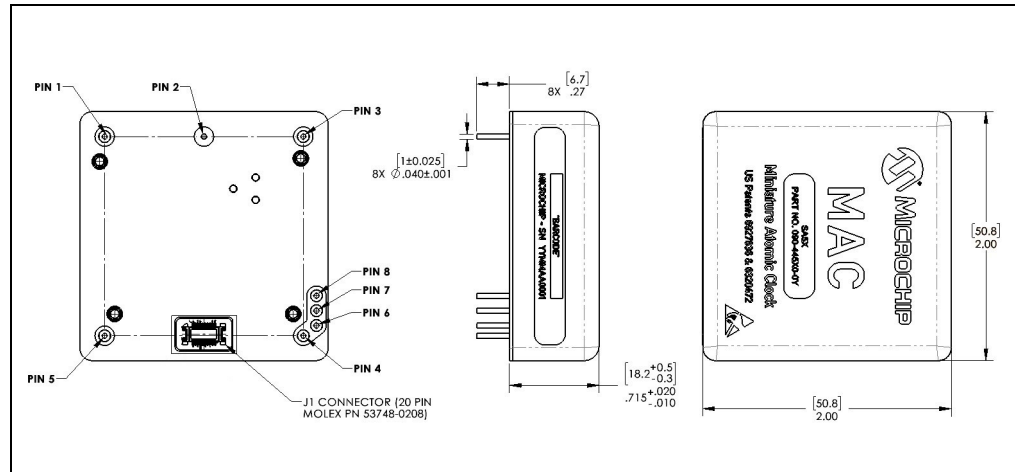

FIGURE 1-2: Top Cover and Bottom Baseplate.
The MAC consists of a 2 in x 2 in x 0.7 in PCB-mountable chassis, consisting of a Nickel-plated Aluminum baseplate and black anodized Aluminum cover. All connections for the MAC are on the baseplate. Figure 1-2 shows the top cover on the left and the bottom baseplate on the right.
- **Serial Console Port:** The serial port connection is made through pins 7 and 8 on the baseplate of the MAC. This port allows a user to connect to a terminal or computer using a terminal emulation software package. When connecting to this port, use an appropriate converter chip such as the TRS3122E or similar to attain the required LVCMOS levels. Figure 1-2 shows the serial port pins 7 and 8 in the lower-right region of the baseplate. The default speed is 57600 bps and higher speeds of 230400 bps and 921600 bps are available.